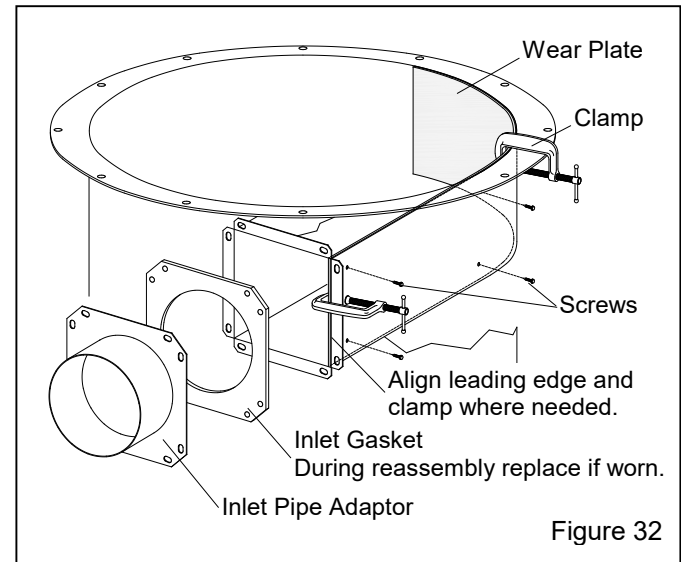

Figure 32
7.11 Replacing Reclaimer Wear Plate – Figure 32